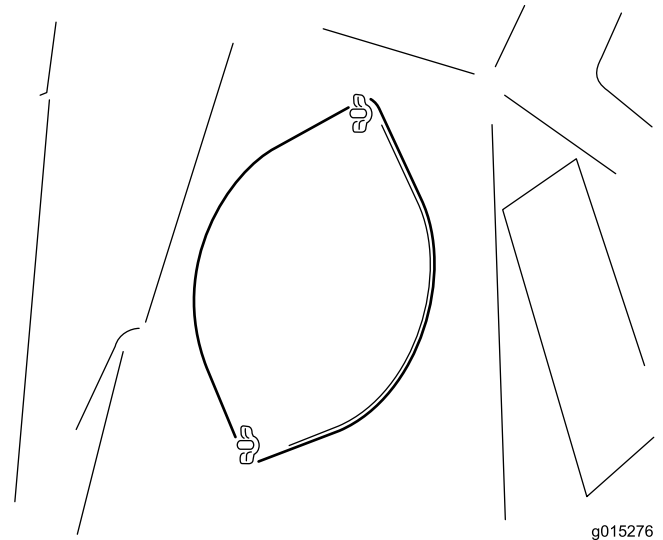

Figure 38
2. Loosen the 2 wing nuts securing the access plate (Figure 38).